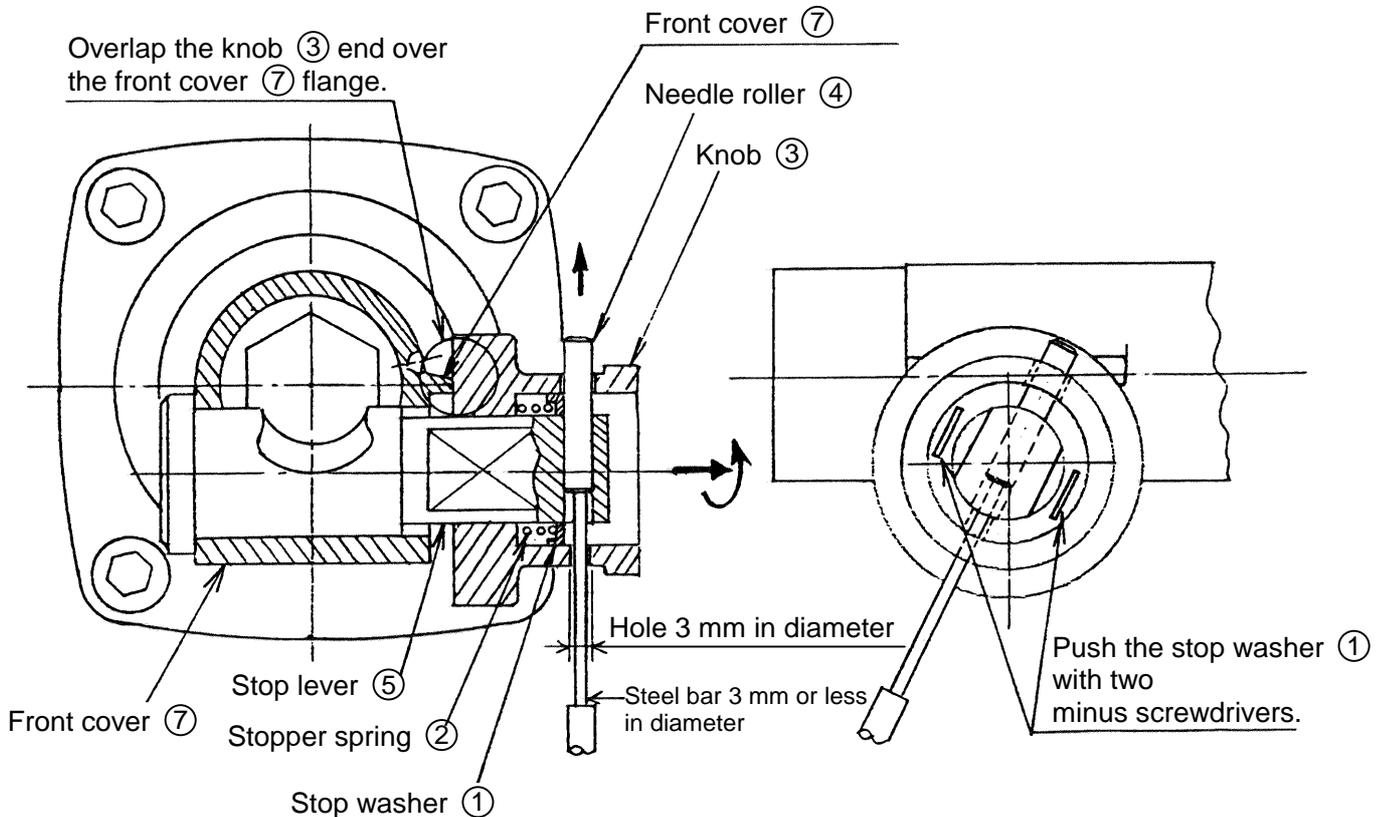
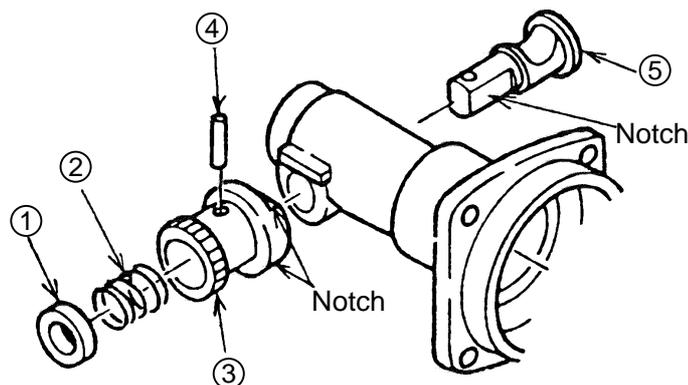

Fig. 6
Fig. 10
To disassemble the retainer, as shown in Fig. 6, pull the knob (3) in direction of the arrow and rotate it slightly to overlap the knob end over the front cover (7) flange. Push the stop washer (1) with two minus screwdrivers to compress the stopper spring (2). Insert the steel bar 3 mm or less in diameter into the 3 mm diameter hole of the knob (3). Push the needle roller (4) out and remove it. Then, the stop washer (1), stopper spring (2) stop lever (5) and knob (3) come off.
Align the notches of stop lever (5) and knob (3) as shown in Fig. 10. If they are incorrectly aligned, the tool cannot be inserted. As shown in Fig. 6, overlap the stop lever (5) end over the front cover (7) flange. Push the stop washer (1) with a minus screwdriver to compress the stopper spring (2). Align the holes of the stop lever (5) and knob (3), and insert the needle roller (4).